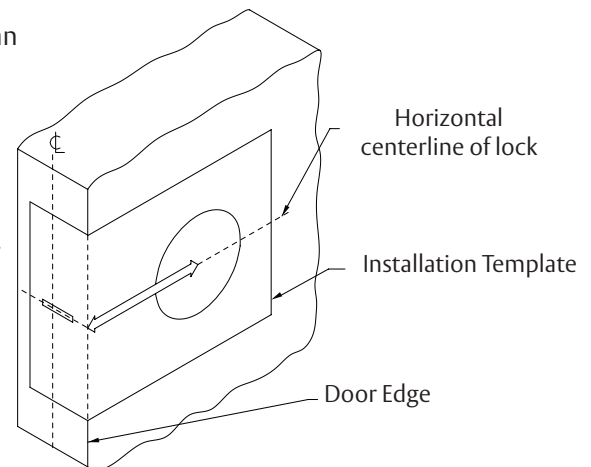

Figure 1
- Using the enclosed installation template, mark location of cross bore at proper backset. Mark edge of door for edge bore at proper centerline location. (Figure 1)